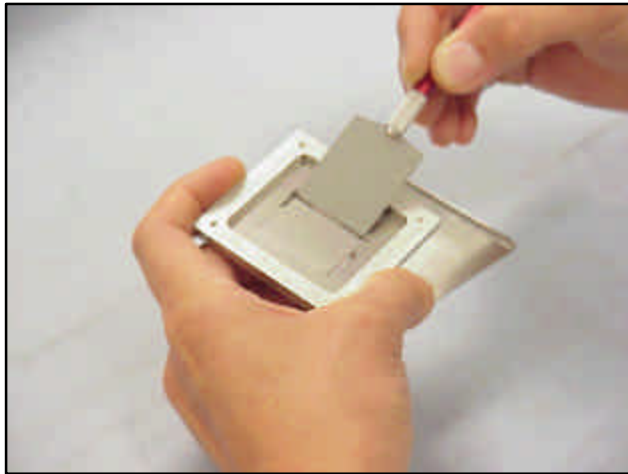

Figure 26: Printing BGA with Solder Paste
3. Print fresh solder paste onto BGA balls using CPF stencil (Fig. 26) Note: In many cases for plastic BGA components with Eutectic solder balls, a thin coating of flux paste is applied to the board in lieu of adding additional solder paste.